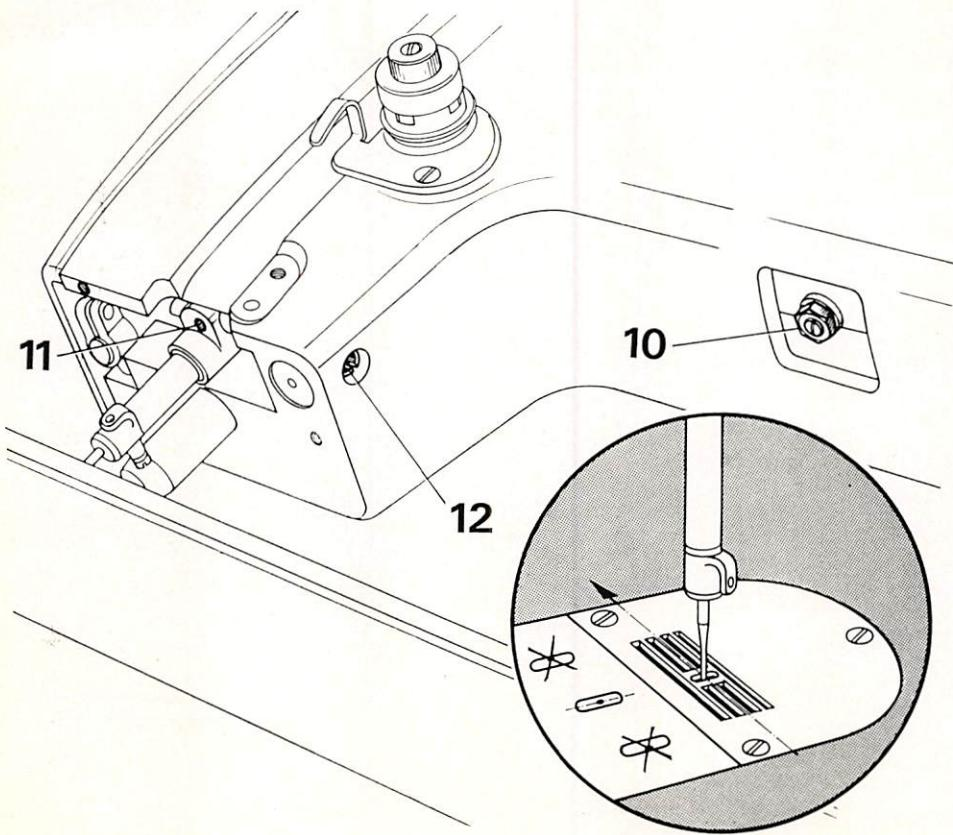

Fig. 4
2. Centering the Needle in the Needle Hole in Sewing Direction (Fig. 4)